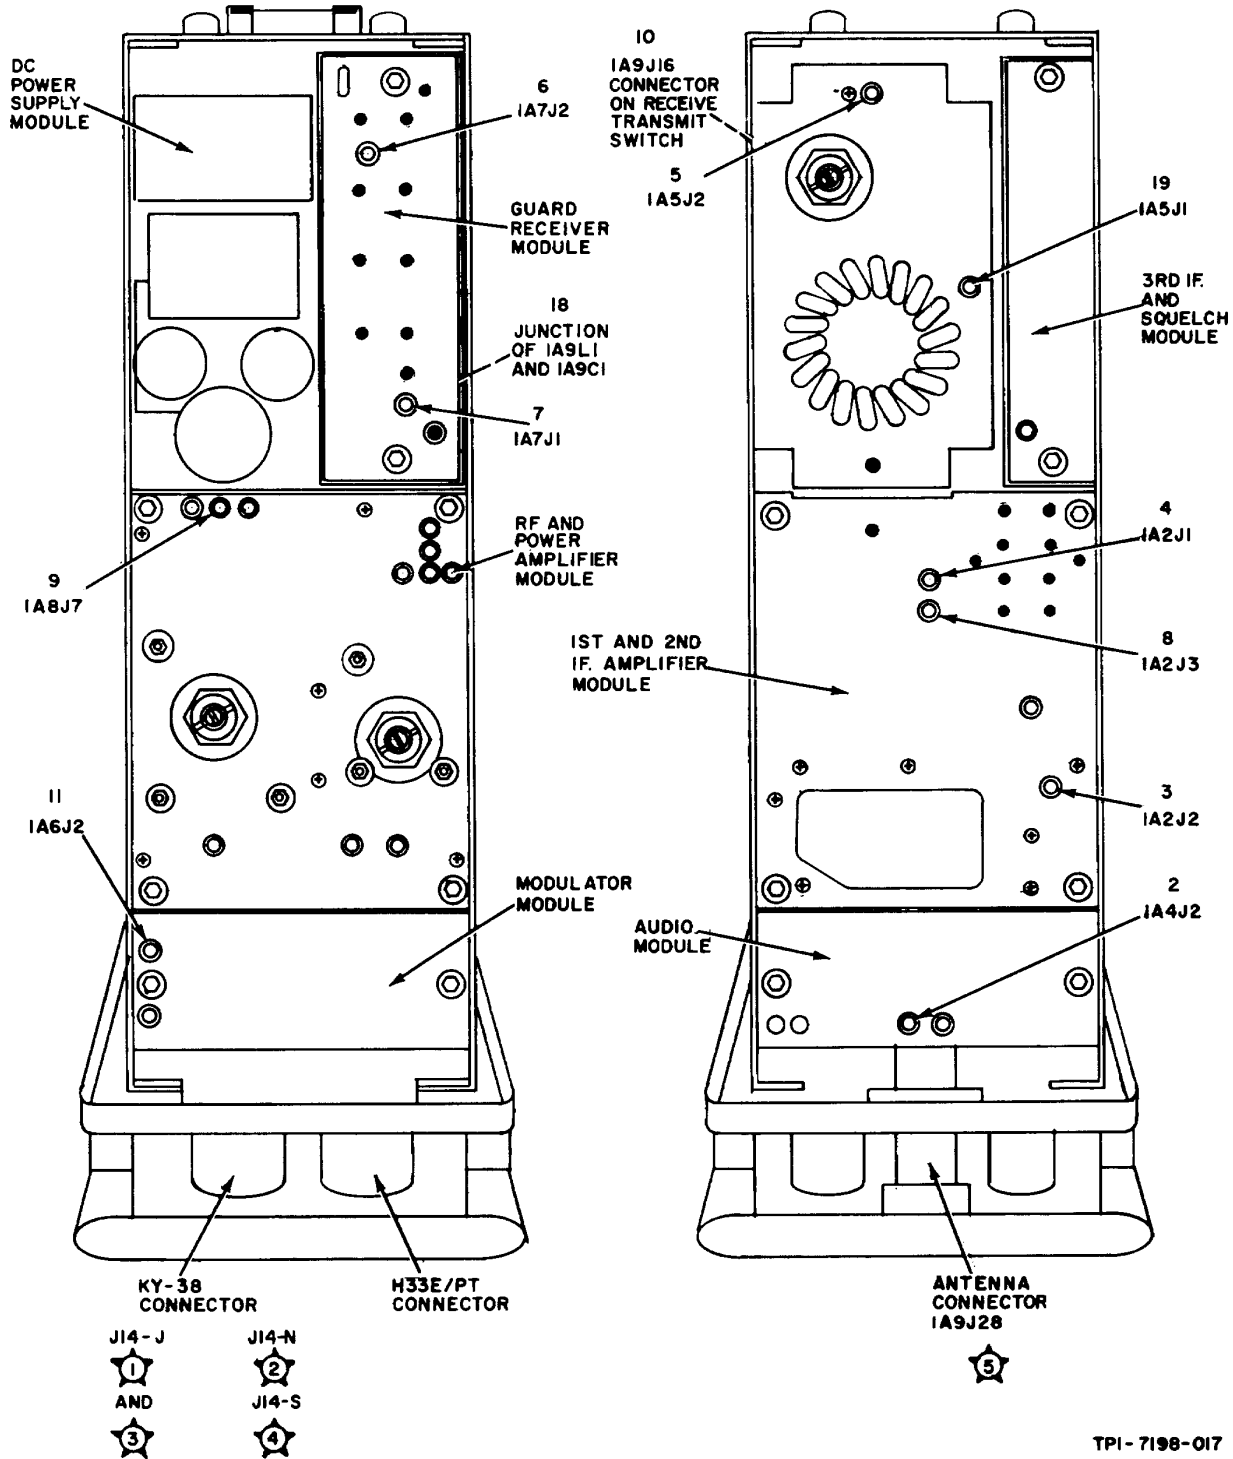
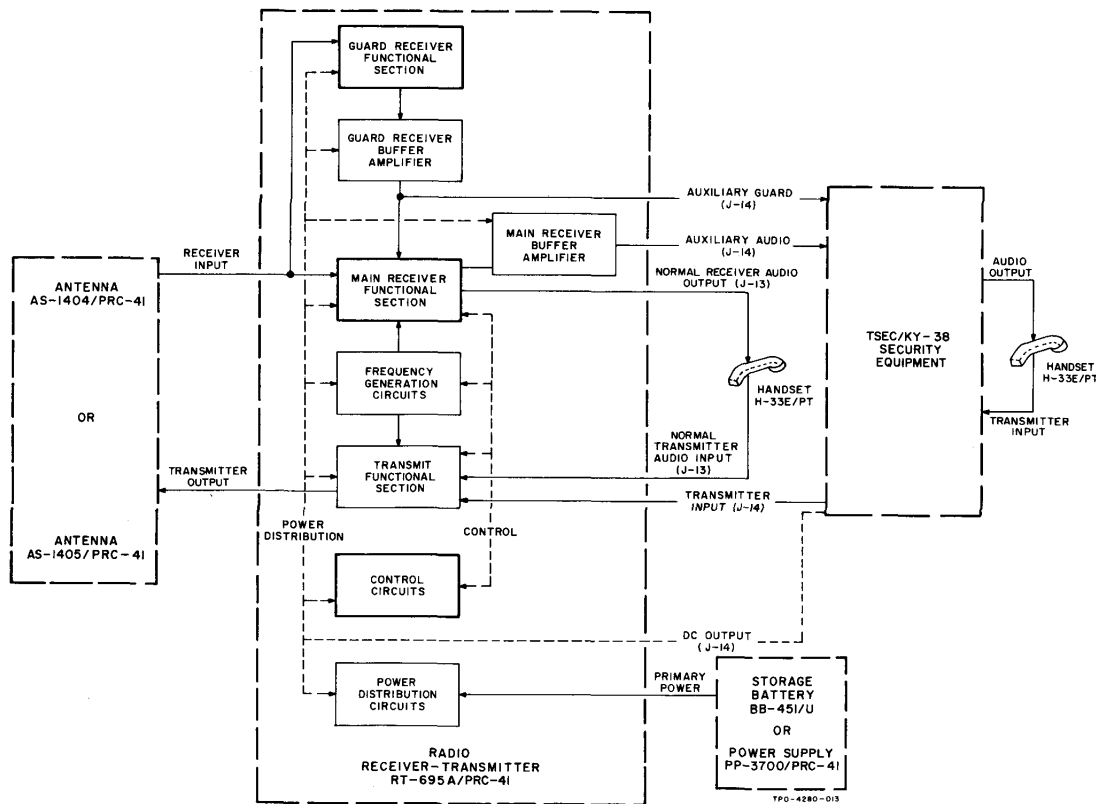

Figure 4-1. Radio Receive Transmitter RT-695A/PRC-41, Module and Test-Point Locations.
Figure 4-3. Radio Set AN/PRC-41A, Overall Functional Block Diagram
(1) SYMPTOM RECOGNITION. - This is the first step in the troubleshooting procedure and is based on a complete knowledge and understanding of equipment operating characteristics. All equipment troubles are not the direct result of component failure; therefore, trouble in an equipment is not always easy to recognize since all conditions of less than peak performance are not always apparent. This type of equipment trouble is usually discovered while accomplishing preventive maintenance procedures. It is important that the not so apparent troubles, as well as the apparent troubles, be recognized.
(2) SYMPTOM ELABORATION. - After an equipment trouble has not been recognized, all the available aids designed into the equipment should be used to elaborate further on the original trouble symptom. Front panel controls should provide a better identification of the original trouble symptom; also, checking or otherwise manipulating the operating controls may eliminate the trouble.
(3) LISTING PROBABLE FAULTY FUNCTION. - The next step in logical troubleshooting is to formulate a number of logical choices as to the cause and functional section of the trouble. The logical choices are based on knowledge of the equipment operation, a full identification of the trouble symptom, and information contained in this manual. The overall functional description and its associated block diagram should be referred to when selecting possible faulty functional sections.
(4) LOCALIZING THE FAULTY FUNCTION. -(Refer to figure 4-1). For the greatest efficiency in localizing trouble, the functional sections which have been selected by the logical choice method should be tested in an order that will require the least time. This requires a choice to determine which section to test first, and should be based on the validity of the logical choice and the difficulties in making the necessary tests. If the tests do not prove that functional section to be at fault, the next selection should be tested, and so on until the faulty functional section is located. As an aid to this process, the manual contains a functional description and a servicing block diagram of the functional sections. Pertinent indications are included at significant check points on the servicing block diagram to aid in isolating the faulty section; also, test data (such as information on control settings, critical adjustments, and required test equipment) are supplied to augment the functional description and servicing block diagram of the functional sections.
(5) LOCALIZING TROUBLE TO THE CIRCUIT. - After the faulty functional section has been isolated, it may be necessary to make additional choices as to which circuit or group of circuits is at fault. The servicing block diagram of the functional sections and the individual functional circuit groups (where required) provide the signal flow and test location information needed to bracket and then isolate the faulty circuit. Functional descriptions, simplified schematics, and pertinent test data for individual circuits or groups of circuits of the functional section are all placed together in one area of the manual. Information which is too lengthy in nature to be included in this arrangement is readily referenced from the test data portion of the troubleshooting information.
(6) FAILURE ANALYSIS. - After the trouble (faulty component, misalignment, etc) has been located, but prior to performing corrective action, the procedures followed up to this point should be reviewed to determine exactly why the fault affected the equipment in the manner it did. This review is usually necessary to make certain that the fault discovered is actually the cause of the malfunction and not just the result of the malfunction.
a. RADIO SET AN/PRC-41A.-Radio Receiver-Transmitter RT-695A/PRC-41 is composed of eight plug-in modules and a main chassis. See figure 4-1 for relative module location and identification. The RT-695A/PRC-41 is a receiver-transmitter that provides radiotelephone (A3) communication from ground to air and ground to ground. Refer to figure 4-3, a functional block diagram. There are 1750 channels available, spaced 100 kHz apart, in the range of 225.0 to 399.9MHz. The operator can select each
(1) Since the units and accessories of AN/ PRC-41A are not electronic in nature, with the exception of Radio Receiver-Transmitter RT-695A/ PRC -41 and Power Supply PP-3700/PRC-41, the description and test information of this section is limited to RT-695A/PRC-41 and PP-3700/PRC-41. It may be necessary to check an antenna or cable assembly for continuity; however, damage to masts, mountings, harness, cases, etc. is obvious from visual inspection. No test information for these items is contained in this section. The RT-695A/ PRC-41 functions in three ways: it provides transmission and reception on 1750 channels in the 225.0- to 399.9-MHz range, and reception on a single frequency, 243.0 MHz, known as the guard channel. The functional sections are therefore identified as the main receiver, guard receiver, and transmitter. Refer to figure 4-3. Primary power, power distribution,
(2) Paragraphs 4-3 through 4-5 provide descriptions and test data for the functional sections. Alignment and adjustment information references the procedures of section 5. Paragraph 4-6 provides descriptions and test data pertinent to the subordinate circuits. Each of the functional sections are broken down into circuits or groups of circuits and into modules. A module is defined as a plug-in subassembly. The lowest level in this breakdown process is the simplest functional block (for example, an audio amplifier stage). Only the circuits which are uncommon (those not covered in the Handbook of Electronic Circuits, NavShips 900,000.102) will be discussed. In all other cases, reference is made to RT-695A/PRC-41 schematic diagrams of section 5 and the servicing block diagram of this section.
b. TEST POINTS. -Significant test points are identified on the functional section servicing block diagram, figure 4-19, and illustrated in figure 4-1 by use of star and circle test symbols. The star test-point symbol identifies and locates test points which are used to isolate trouble to a functional section. Circle test-point symbols identify and locate test points which are used to isolate trouble to a circuit within the functional section. Unless otherwise noted, all test-point voltage measurements are with respect to ground. Refer to table 4-2 and figure 4-1.